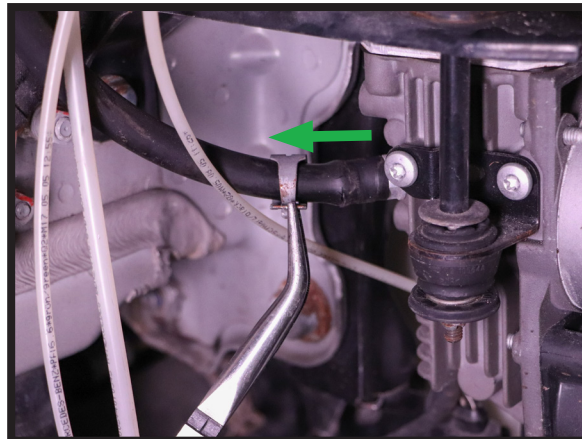

FIGURE 7
7. LOCATE THE EXHAUST HOSE LEADING TO THE COMPRESSOR. PINCH AND SLIDE THE HOSE CLAMP OFF OF THE AIR FITTING AND REMOVE THE AIR HOSE. (FIGURE 7)